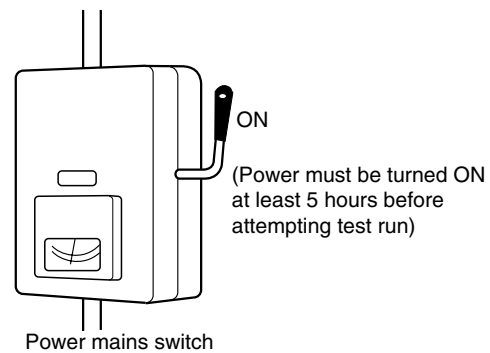

Fig. 8-1
- (1) The control wiring is correctly connected and all electrical connections are tight.
- (2) The transportation pads for the indoor fan have been removed. If not, remove them now.
- (3) The power has been connected to the unit for at least 5 hours before starting the compressor. The bottom of the compressor should be warm to the touch and the crankcase heater around the feet of the compressor should be hot to the touch. (Fig. 8-1)